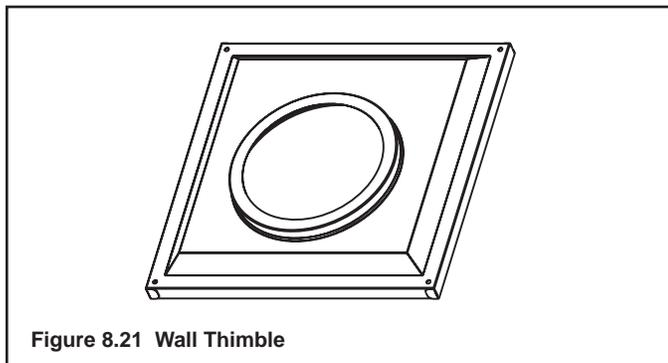

Figure 8.21 Wall Thimble
- Once the pipe section and the termination cap have been connected, slide the wall thimble up to the interior wall surface and attach with screws provided. See Figure 8.21.
- **DO NOT** remove the heat shields attached to the wall shield firestop and the horizontal termination cap (shown in Figure 8.21).